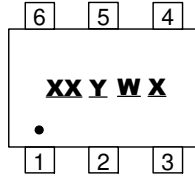

**Figure 1 Load Circuit and Voltage Waveforms**
$V_{CC} (A) = 1.5V \pm 0.1V$ ,  $T_A = -40^\circ C$  to  $+85^\circ C$ , See Figure 1
$V_{CC(A)} = 1.8V \pm 0.15V$ ,  $T_A = -40^\circ C$  to  $+85^\circ C$ , See Figure 1
$V_{CC(A)} = 2.5V \pm 0.2V$ ,  $T_A = -40^\circ C$  to  $+85^\circ C$ , See Figure 1
$V_{CC(A)} = 3.3V \pm 0.3V$ ,  $T_A = -40^\circ C$  to  $+85^\circ C$ , See Figure 1